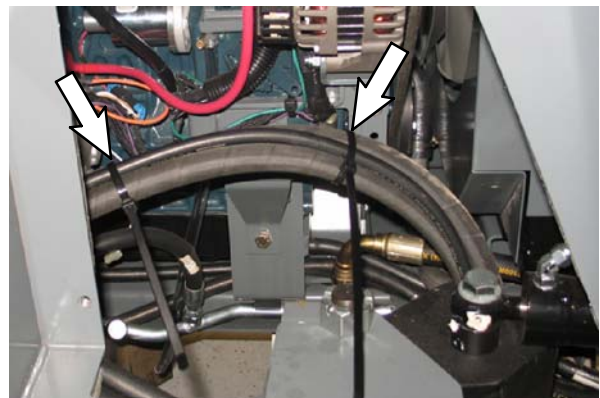

FIG. 4
6. Route the hydraulic hose (1) toward the hose clamp located on the inner side of the operator compartment and use two cable ties (2) to secure the hydraulic hose to the other two hoses it is routed near. Refer to Fig. 4.